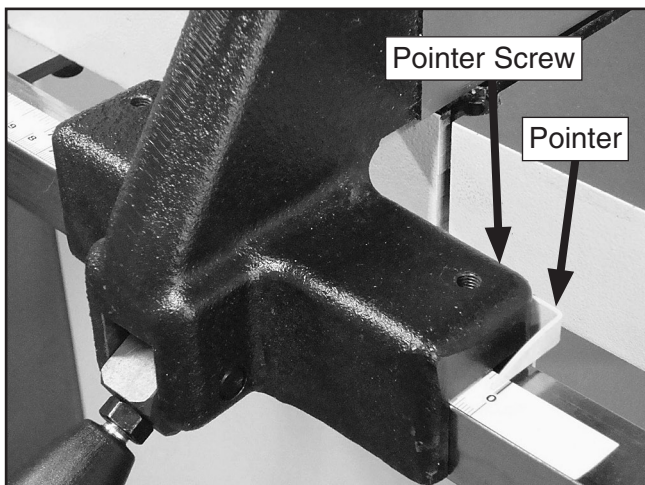

Figure 9. Calibrating fence pointer (screw out of view).
3. Loosen the pointer adjustment screw (**Figure 9**) and set the pointer in line with "0" and the measurement scale on the table.